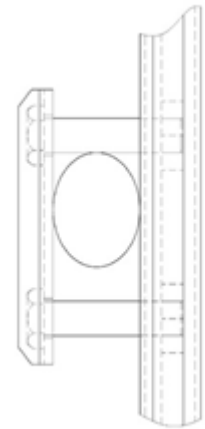

Figure 4
1. Attachment to 1-1/4" diameter rungs requires the mounting bracket reverse positioned with flanges away from the ladder rung as shown in Figure 4.